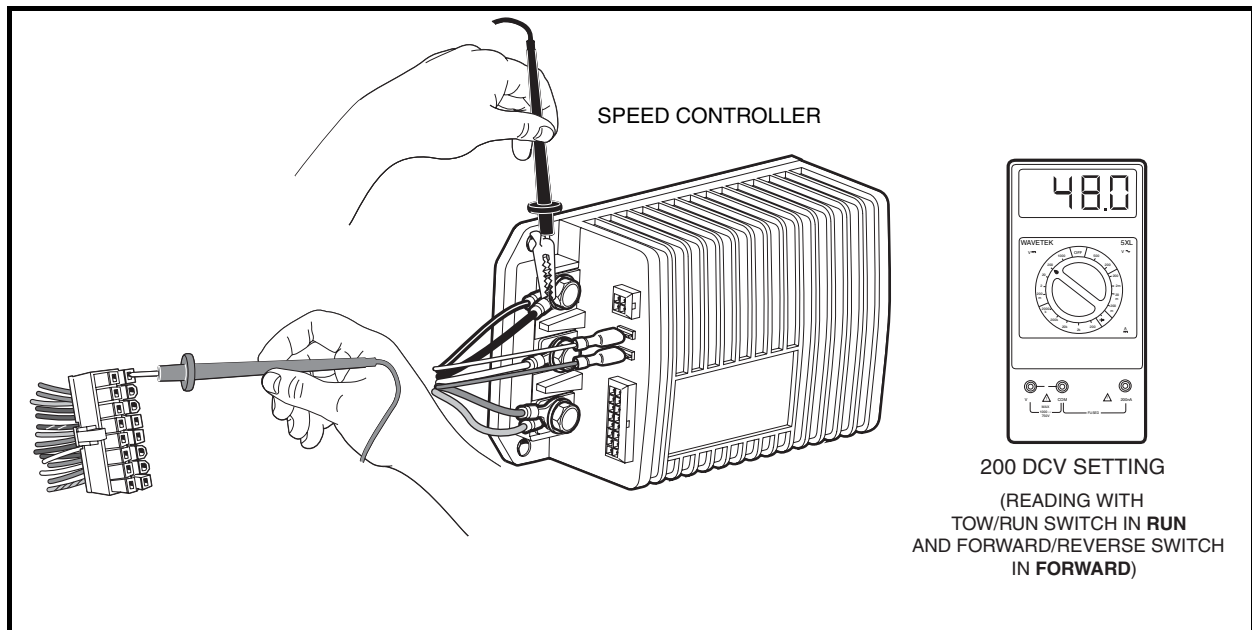

Figure 11-15 Pins 8 and 16 Test
4. Set a multimeter to 200 volts DC, insert the red (+) probe of the multimeter into pin 8 (brown wire) of the 16-pin connector. **See following CAUTION.** Using an alligator clip, connect the black (–) probe to the B–terminal of the speed controller (**Figure 11-15, Page 11-28**).